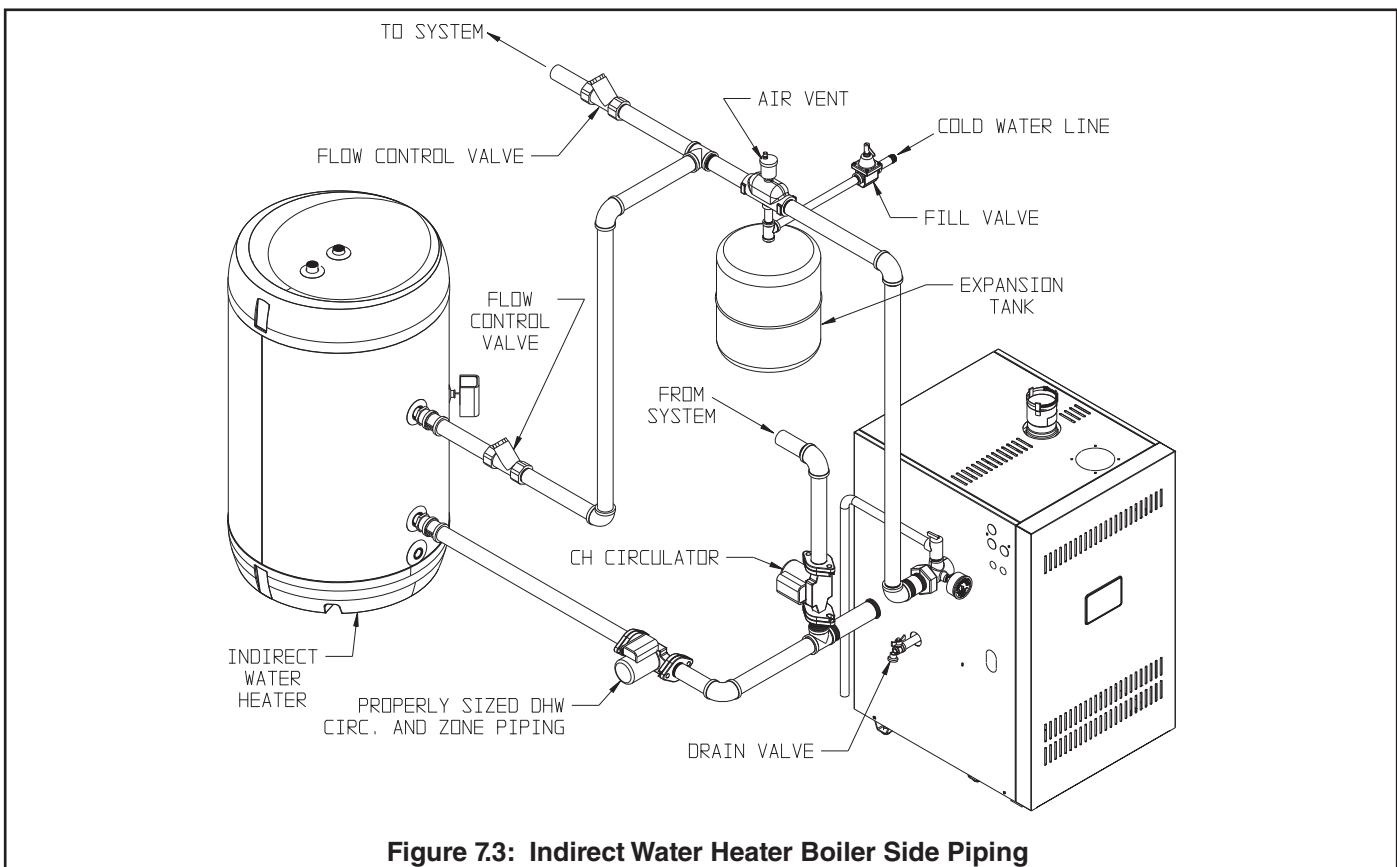

Figure 7.3: Indirect Water Heater Boiler Side Piping
1. Indirect Water Heaters - Figure 7.3 shows typical indirect water heater piping. Boiler piping is the same as for any two-zone system. Figure 7.3 shows circulator zoning, which is usually preferred for indirect water heaters. Size the circulator and indirect water heater piping to obtain the boiler water flow through the indirect water heater called for by the indirect water heater manufacturer.